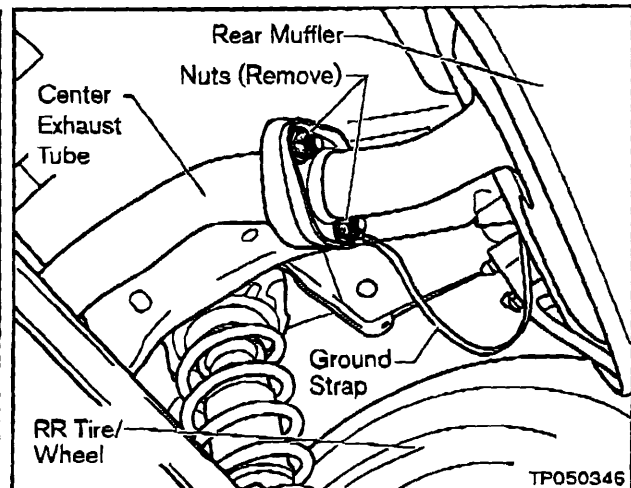

Figure 4b
- b. Remove two Nuts that secure the Center Exhaust Tube to the rear Muffler (see Figure 4b).